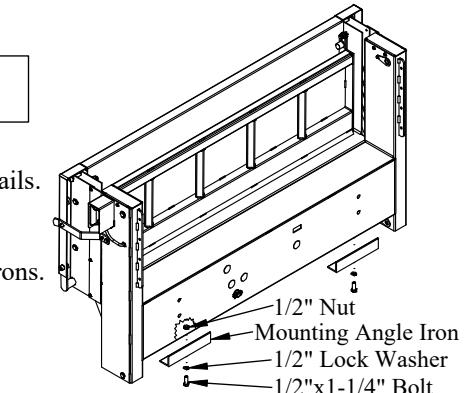

Figure 17: Mounting angle iron location.
1. Install the two (2) mounting angle irons to the bottom of the liftgate (Figure 17).